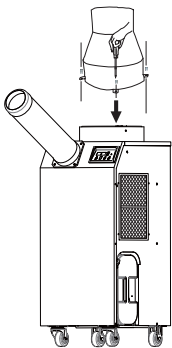

Figure 5
3. Use screws (enclosed inside of box with exhaust flange) to install exhaust flange on air conditioner as shown in Figure 5.